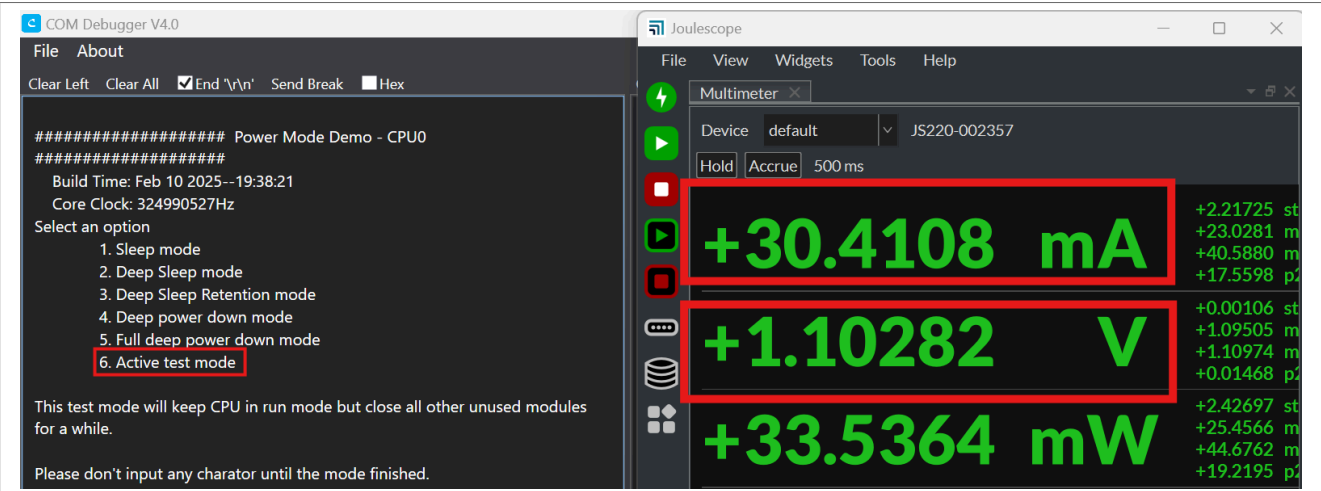

Figure 13. Power consumption
15. Voltage compensation: It must be emphasized that the impedance of the ammeter causes the voltage drop. If you must get the current at a more accurate voltage point, voltage compensation is required. Increase the voltage of VDD2 with one step, and try to make the actual voltage of VDD2 close to 1.1 V. Figure 13 shows the power consumption.